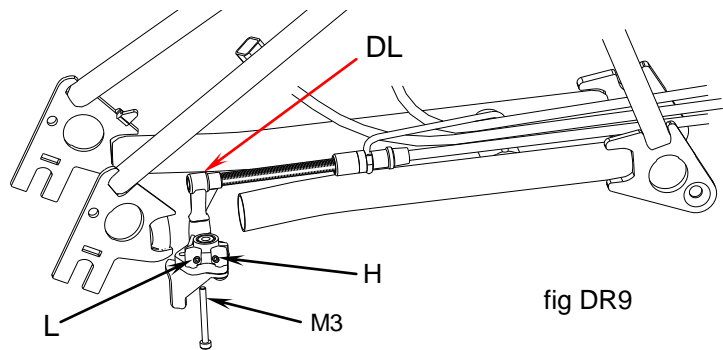
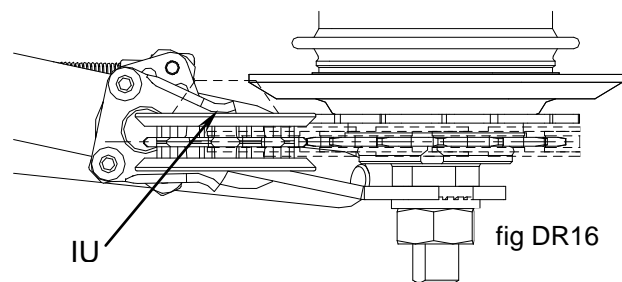

fig DR9
fig DR16
If you are only replacing the actuator plate or the "wing-plate", there is no need to disconnect the M3 screw linking the CHPUA to the dogleg DL (fig DR9). For replacement of any other items, this screw should be detached, and it's best if the rear wheel is removed. [Also, if the bearing is of the original, ball-bearing type, we strongly recommend that while working on this part of the bike, you replace this with the new plain bearing (QCHPUBRGA).]
2. With the derailleur trigger down (in low gear), remove the M3 x 30 screw (fig DR9, below). Because the wheel is so close, this can be a bit awkward: life is easier if you remove the rear wheel.
9. Feed the M3 screw through the chain pusher body, and into the dogleg DL (fig DR9, below), and do it up. Do not overtighten the screw, and when it reaches the end of its travel, **back it**
Use the stop screws, fig DR9, on the chain pusher. The idea is that, in high gear, the inner face of the inner upright IU, fig DR16, shall be as close as possible to the idler wheel, without any rubbing pressure while the idler rotates (to give the slickest change with minimum wear): when the setting is right, you should just be able to see daylight between the two while turning the cranks *forwards*, perhaps with occasional contact. Use a 2mm hex key in the forward stop screw H for adjustment.